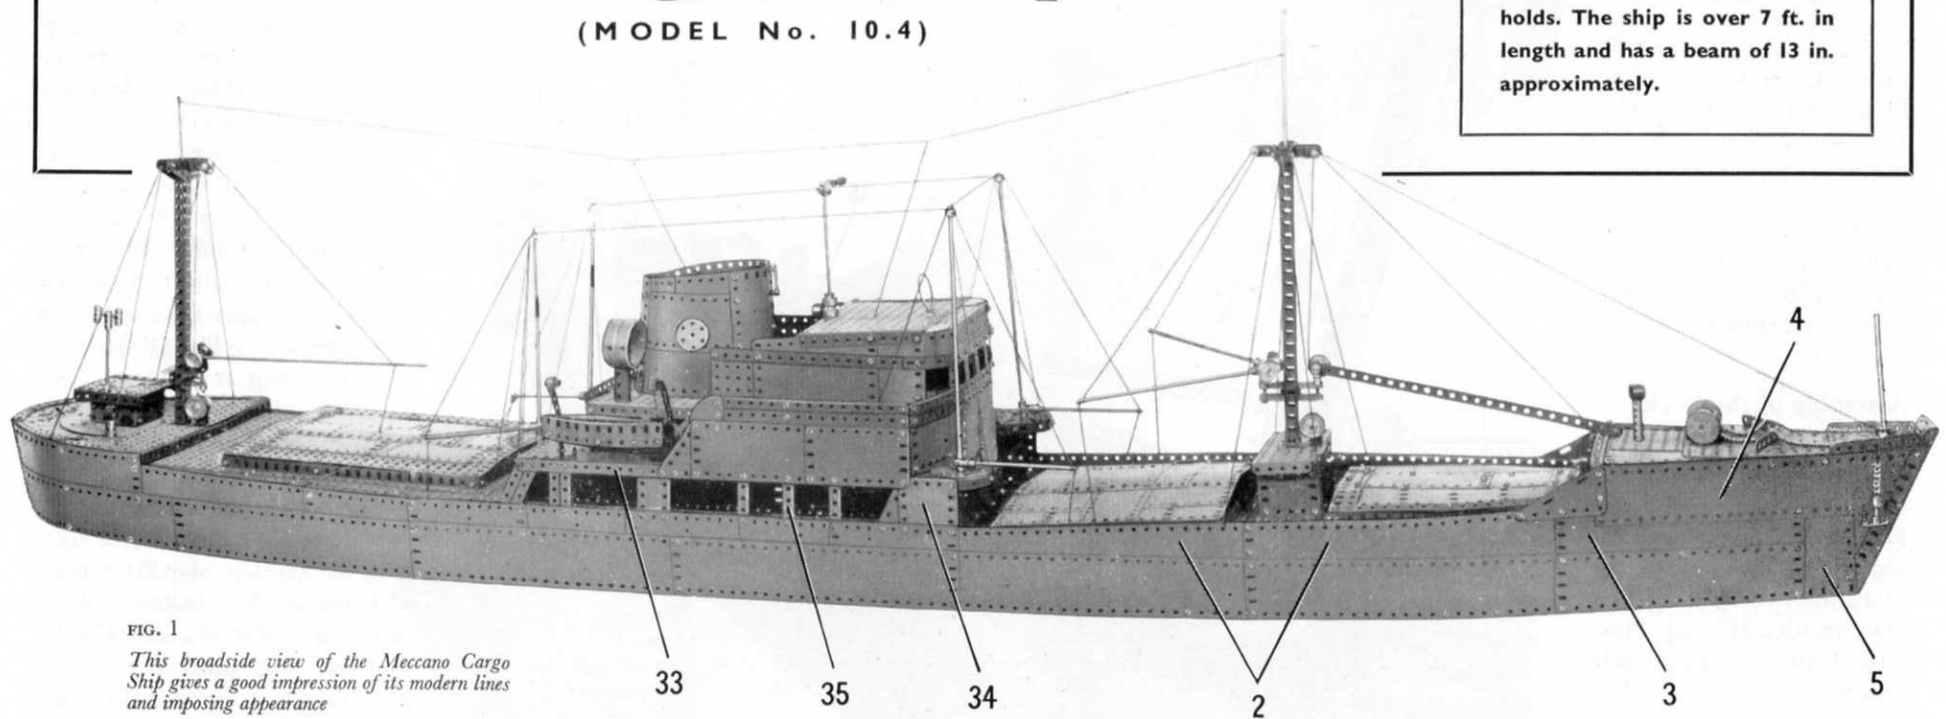

FIG. 1
### Constructional Details: The Hull (Figs. 1, 3, 4 and 5)
extended upward by six  $5\frac{1}{2} \times 1\frac{1}{2}$  Flexible Plates, and towards the bow two  $12\frac{1}{2} \times 2\frac{1}{2}$  Strip Plates (2) are fixed at a slight angle (Fig. 1), and are extended forward by a  $9\frac{1}{2} \times 2\frac{1}{2}$  Strip Plate (3). A further  $12\frac{1}{2} \times 2\frac{1}{2}$  Strip Plate (4) and a  $3\frac{1}{2} \times 2$  Triangular Flexible Plate are fixed to the Plates 2 and 3 as shown. A  $5\frac{1}{2} \times 2\frac{1}{2}$  Flexible Plate (5) is bolted vertically to the front ends of the  $9\frac{1}{2} \times 2\frac{1}{2}$  Strip Plates.
A strip (33) (Fig. 1) on each side is made up from a  $12\frac{1}{2}$ " and a  $7\frac{1}{2}$ " Strip. It is then bolted to a  $2\frac{1}{2}$ "  $\times$   $2\frac{1}{2}$ " Flexible Plate (34), edged at the front by a 3" Strip and at the rear by a  $2\frac{1}{2}$ "  $\times$   $1\frac{1}{2}$ " Triangular Flexible Plate. It is also bolted to two  $2\frac{1}{2}$ " Strips and a  $5\frac{1}{2}$ " Strip (35), to a  $2\frac{1}{2}$ "  $\times$   $1\frac{1}{2}$ " Flexible Plate, to two  $2\frac{1}{2}$ " Strips placed together and to two 3" Strips arranged at a slight angle (Fig. 1).